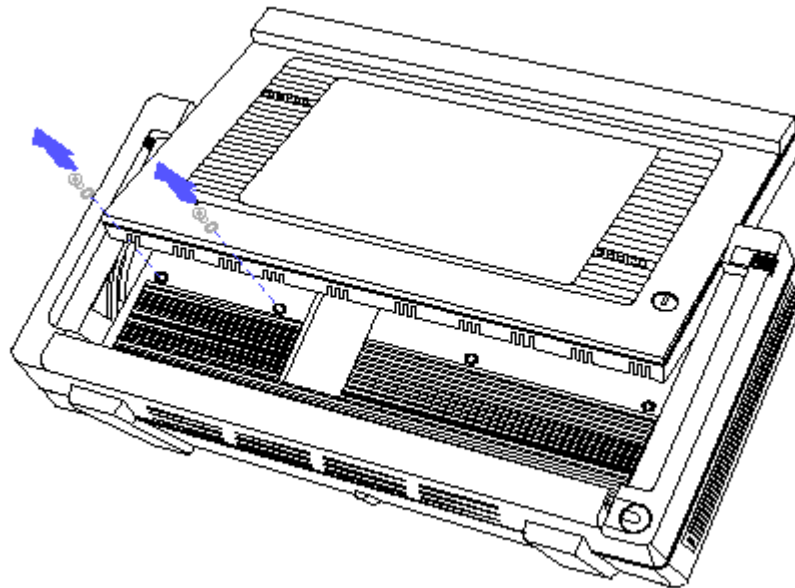

Figure 8-54. Removing the Bottom Two Screws and Washers from the Power Supply
13. Lift the plasma display into an upright position and remove the bottom two screws and washers with a Torx screw driver (Figure 8-54).